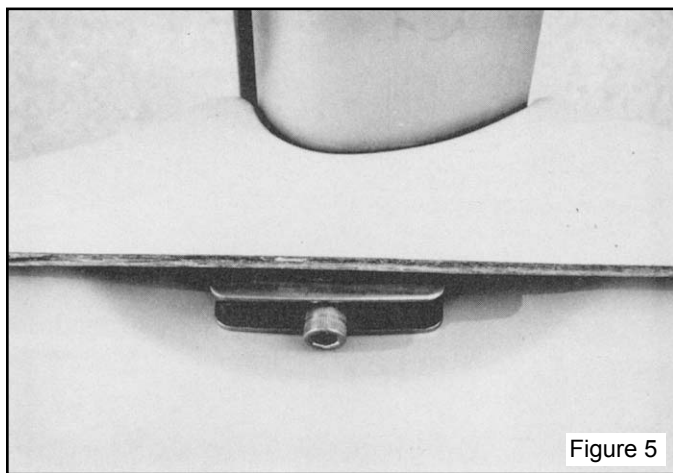

Figure 5
7. Place the front bar across the forward saddles. The lengthwise track opening should be facing toward the bows. See Figure 5.